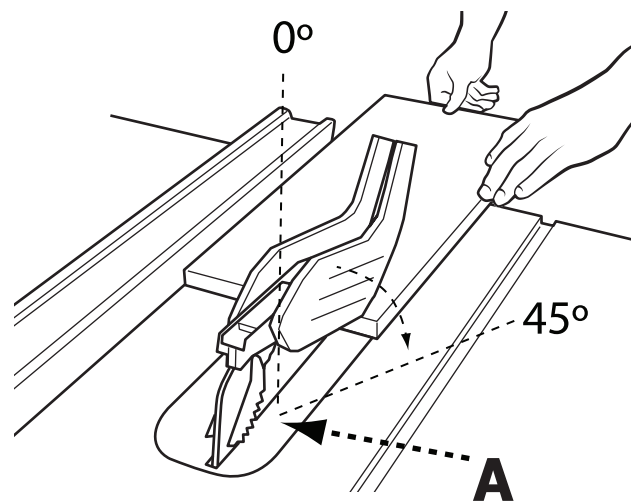

Figure 22
Bevel ripping is the same as ripping except the bevel angle (A) is set to an angle other than 0° . When making a bevel rip cut, place the fence on the right side of the blade so that the blade is tilted away from the fence and hands.(Fig. 22).